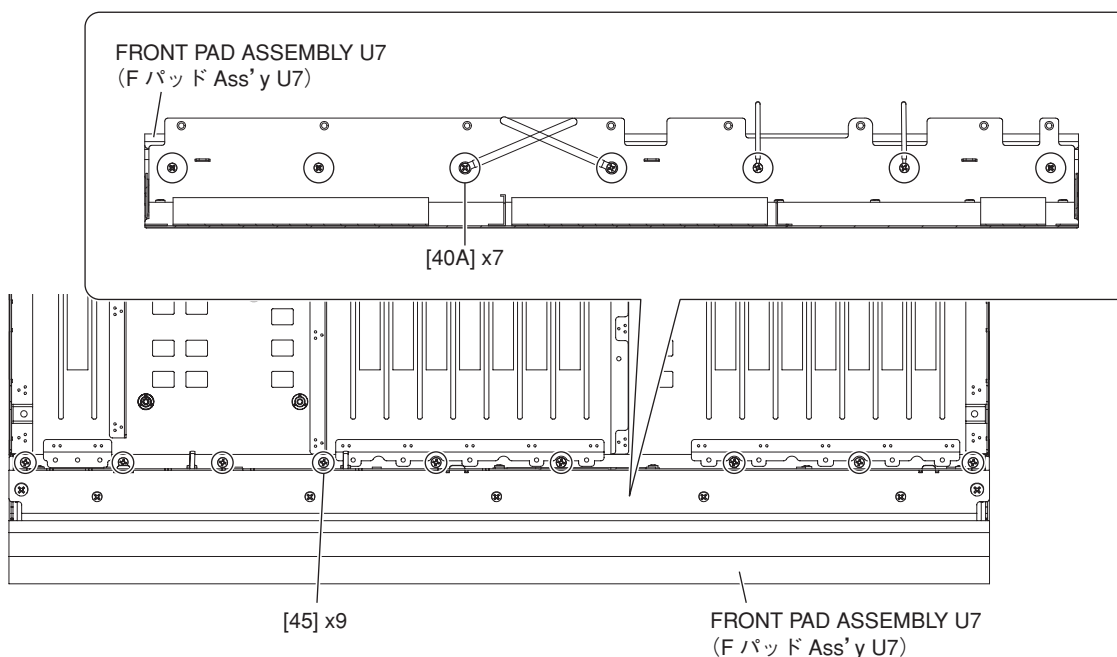

Fig. 12 (図12)
- B-15-4. Remove the nine (9) screws marked [45] and the seven (7) screws marked [40A]. The front pad assembly U7 can then be removed. (Fig. 12)
- B-15-4. [45] のネジ9本と [40A] のネジ7本外して、Fパッド Ass'y U7 を外します。(図12)